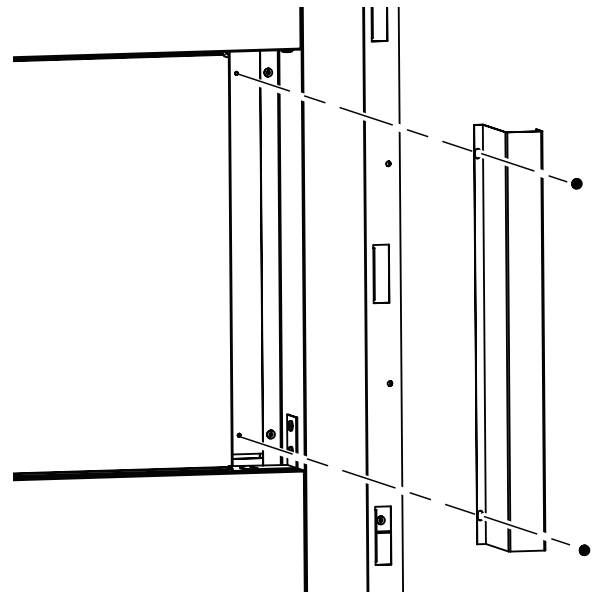

Figure 21 - Installing Side Face Filler for See-Thru Applications
1. Screw side face filler into firebox side baffle using 2 screws on both the left and right side as shown in Figure 21.